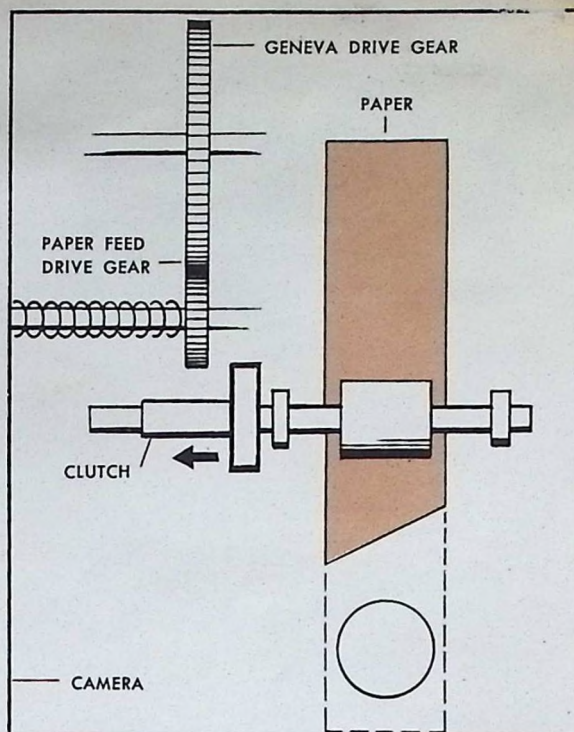

Figure 2. Paper Feed-Down Clutch
3. Open camera door and disengage gears that drive paper feed rollers by pushing clutch to the left (see figure 2).